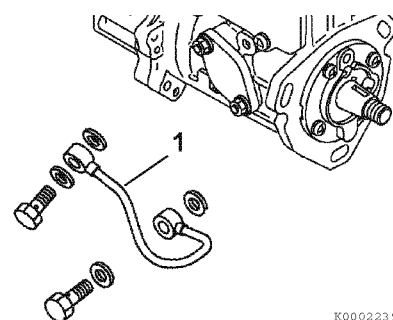

**Figure 7-8**
7. Disconnect the fuel return lines from the fitting on the fuel injection pump (**Figure 7-8, (1)**). Plug the open ends of the lines to minimize leakage and prevent contamination.
8. Remove the fuel supply line (**Figure 7-8, (2)**) from the fitting on the fuel injection pump.
11. Separate the stop solenoid wiring connector (**Figure 7-8, (3)**).